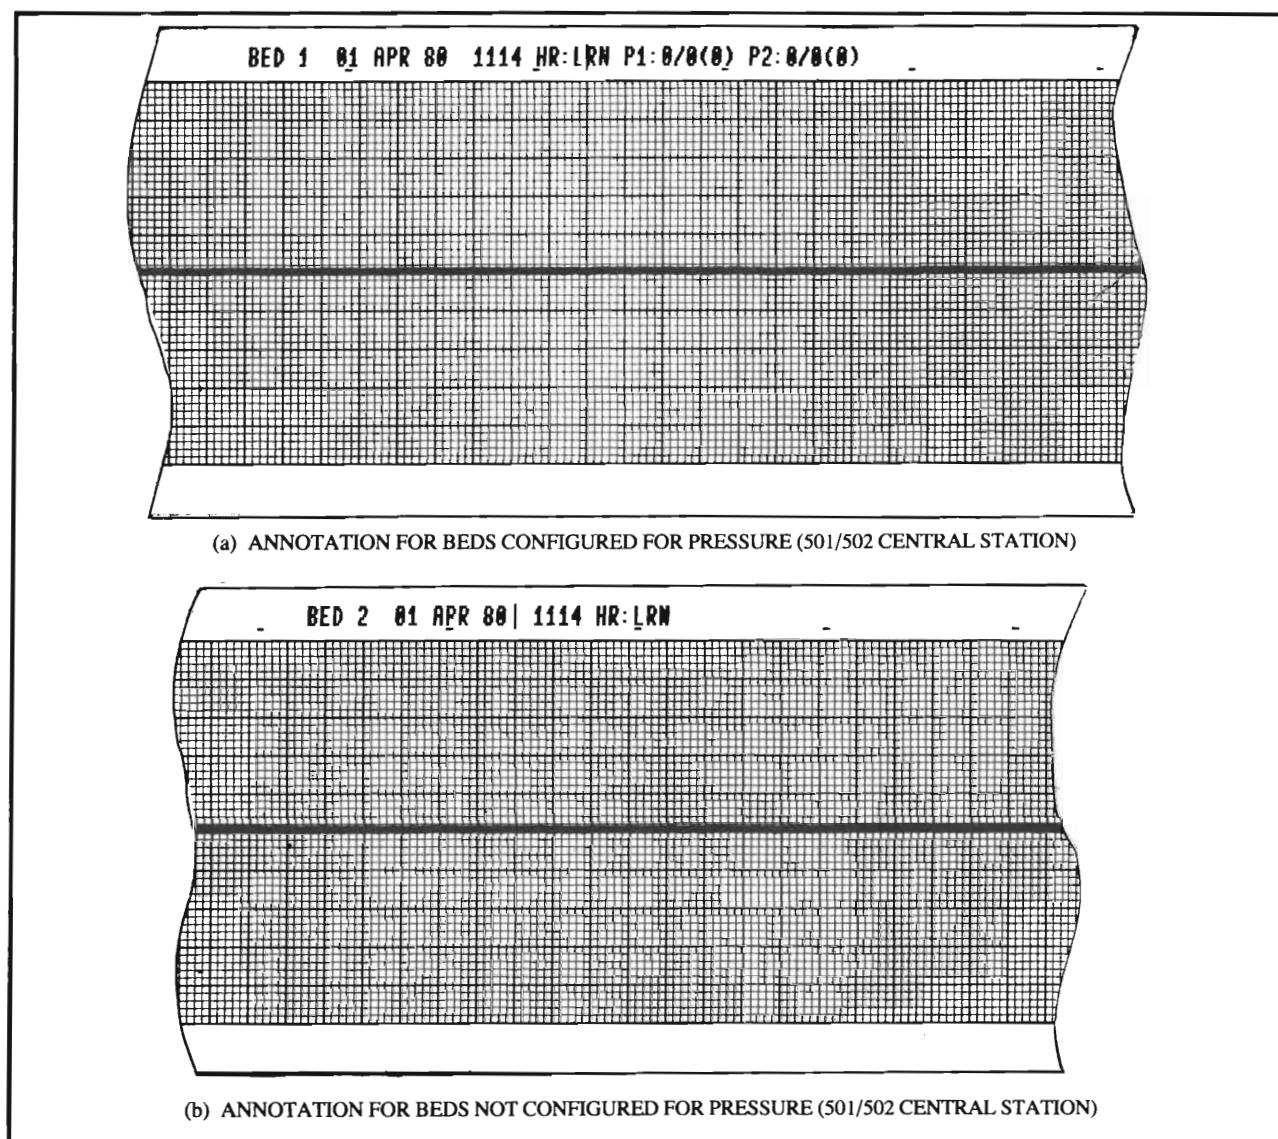

Figure 3-10. Link Subtest 2 Rhythm Test Strip
- f. Switch all bedsides ON at the 78512, as indicated in the above message. A learning mode display of 0 ± 1 should appear at each segment of the 78510 screen. (For example, LRN 0/ 0 (0) displayed at each segment is typical.) Also, labels P1 and P2 should appear at screen segments for beds that are configured for pressure monitoring.
- h. Manually initiate a rhythm strip recording by pressing the softkey for bedside number 1 at the 78510. Verify that the system recorder outputs a test strip with a horizontal straight line ECG pattern, with annotated HR and vital signs data that matches the data shown in Figure 3-10. Repeat this test for the remaining beds in the system. If any erroneous indications are observed, troubleshoot the 78511 Equipment Cabinet or the system recorder.